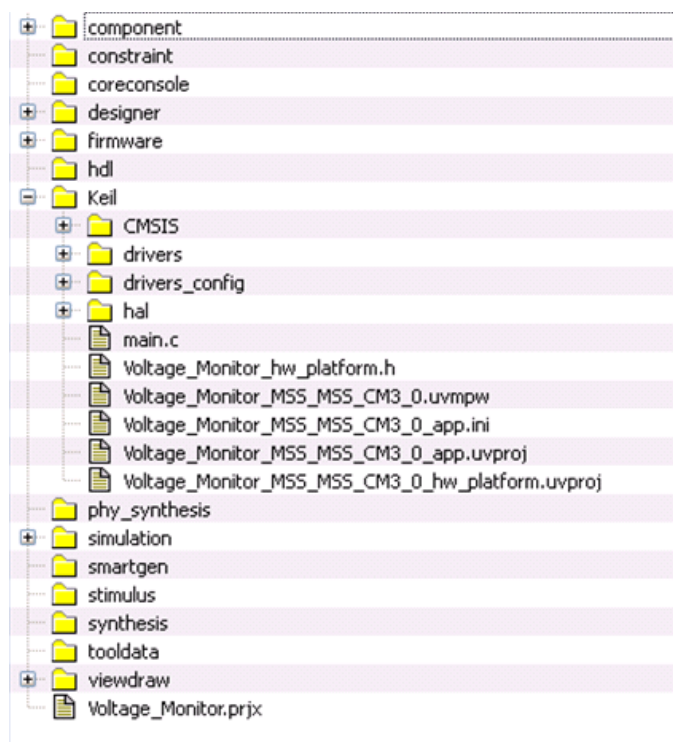

Figure 58 · Files Window
9. Confirm that the Keil folder is created with the folders and files as shown in Figure 58 .